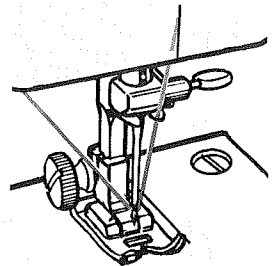

Fig. 5
5. Start machine. The thread that is held will snap. Bobbin will cease turning where completely filled. Push shaft to left to remove bobbin. (Fig. 5)
5. Insert bobbin into bobbin case making sure thread is coming from bobbin as shown. (Fig. 5)
5. Continue to thread down through lower thread guides as shown in Fig. 5. Needle threads from front as shown in Fig. 5.